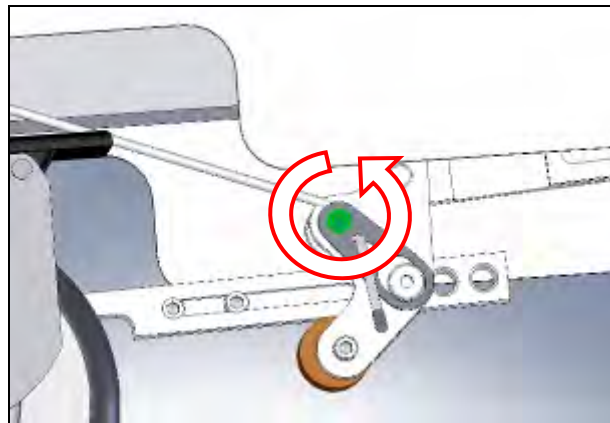

Figure 23
2. Loosen the cable which actuates the latch tab by loosening with a 3/16" Allen key the socket head cap screw which fastens the cable clamp to the swing assembly (Figure 23).